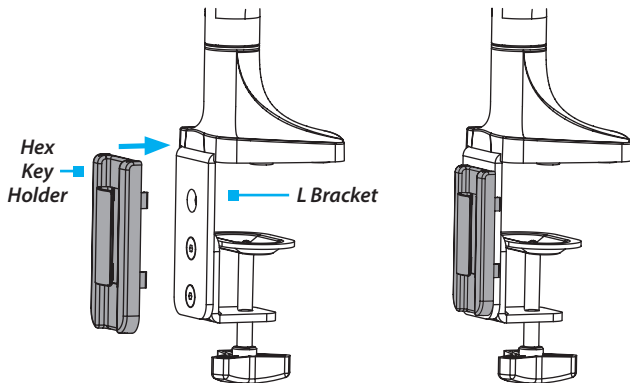

Figure 5
6. Snap the **Hex Key Holder (11)** onto the **L Bracket**. (Figure 5)